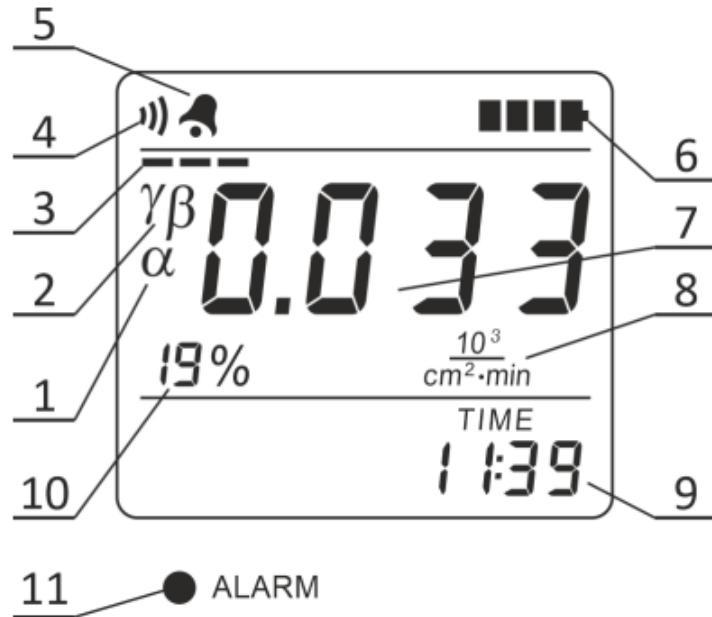

Figure 2.10 – LCD of the radiometer
2.3.3.8.8 When measuring intensity characteristics of alpha radiation, the LCD of the radiometer displays the following information (Figure 2.10):
- estimated limit of statistical deviations (10) of the measurement result (7);
- “ α ” symbol (1) - an indication of the measured radiation type;
- “ $\gamma\beta$ ” symbol (1) - is displayed if the measurement takes place without subtraction of gamma-beta radiation component;
- instantaneous value indicator (3);
- sound symbol (4) (if sound signaling of detected gamma quanta, beta and alpha particles is switched on);
- alarm clock symbol (5) (if the alarm clock is on);
- battery status symbol (6);
- measurement result (7);
- dimension of measurement result (8) $10^3/(\text{cm}^2 \cdot \text{min})$, cps or faded away, if the dimension is Bq/cm^2 ;
- current time (9).
If surface activity measurement is carried out in Bq/cm^2 , then "Act" characters are periodically displayed on the LCD of the radiometer and the dimension of the measurement result goes blank (8) (Figure 2.10).